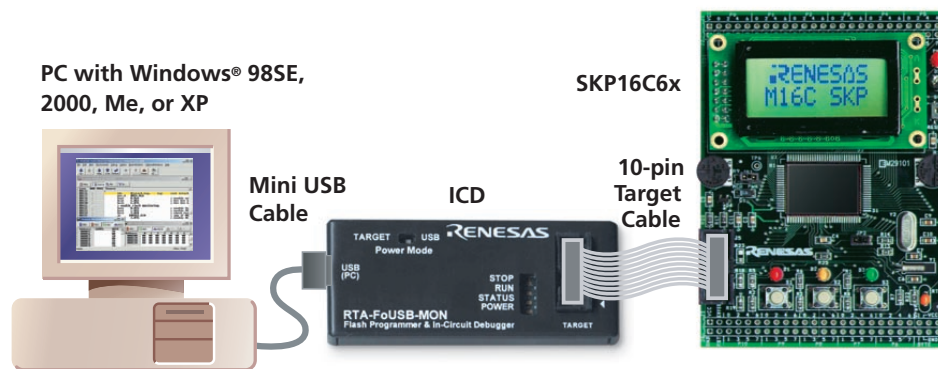

Figure 2. M16C/6x SKP System Connectivity
- a) Connect the SKP to the PC as shown in Figure 2 (described in detail in steps 3a) and 3b) above).